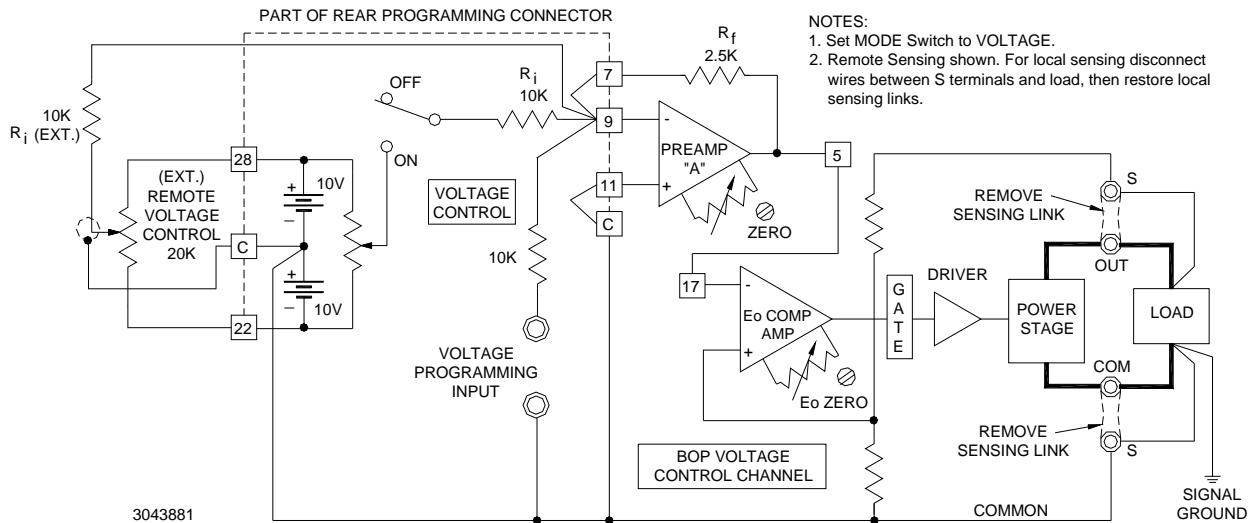

FIGURE 3-5. REMOTE POTENTIOMETER CONTROL OF D-C OUTPUT VOLTAGE
When configured as shown in Figure 3-5, Preamp "A" with the built-in feedback and input resistors has a gain of one and the fixed gain of all BOP models is designed so that a d-c input signal of zero to (\pm)10 volts will control the BOP output through its specified range. When the front panel VOLTAGE CONTROL switch (4, Figure for 3/4 rack, Figure 2-1 for full rack) is set to OFF, operation is similar to local control described in PAR. 3.3.1, except that an external potentiometer is substituted for the front panel VOLTAGE control (3).